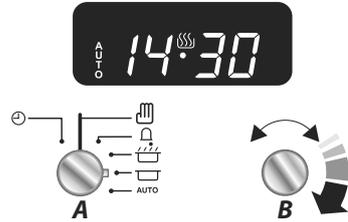

Fig. 2.7
3. Turn the **Timer (A)** knob to the **Auto (H)** setting. The display will show the current time, the cooking symbol and the word 'AUTO' (**Fig. 2.7**).